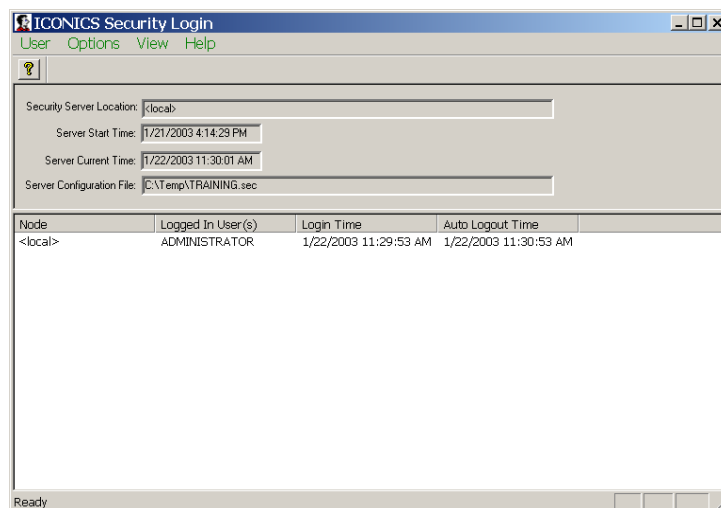

Figure 6.16
15. After security expired, log in again. Since the Administrator user also happens to be the **Security System Administrator**, he/she has additional privileges. You can click on the **Advanced** button on the **Security Login** dialog and see who is logged in and when they are set to auto logout. See **Figure 6.16**.